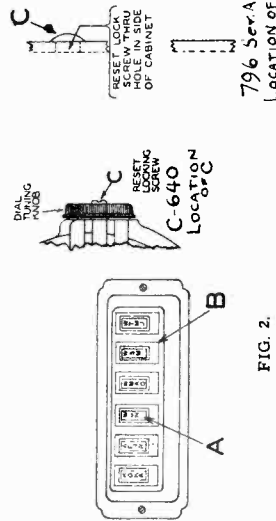

FIG. 2.
1. Make a list of six stations you tune in regularly. There are six push buttons on the front of the radio by means of which six stations may be tuned automatically. (See "B," Fig. 2.)
3. On the front of each automatic tuner button an opening is provided for inserting the call letter tabs, (See "A," Fig. 2). Insert the call letter tabs in the rectangular openings in each of the automatic tuner push buttons.